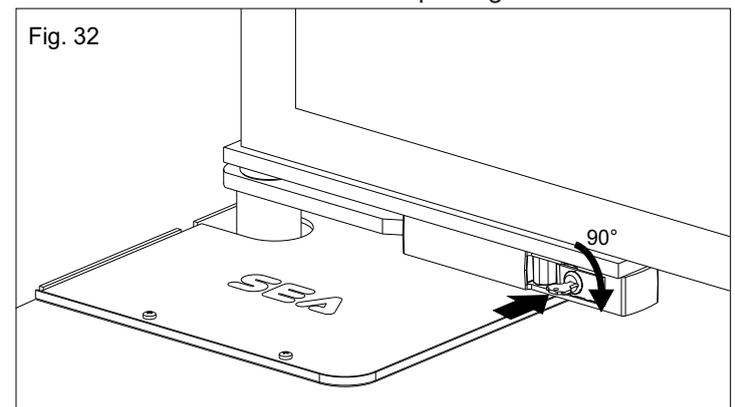

Fig. 32
-Insert the enclosed key into the keyhole and turn it about 90° in clockwise direction (Fig. 32).